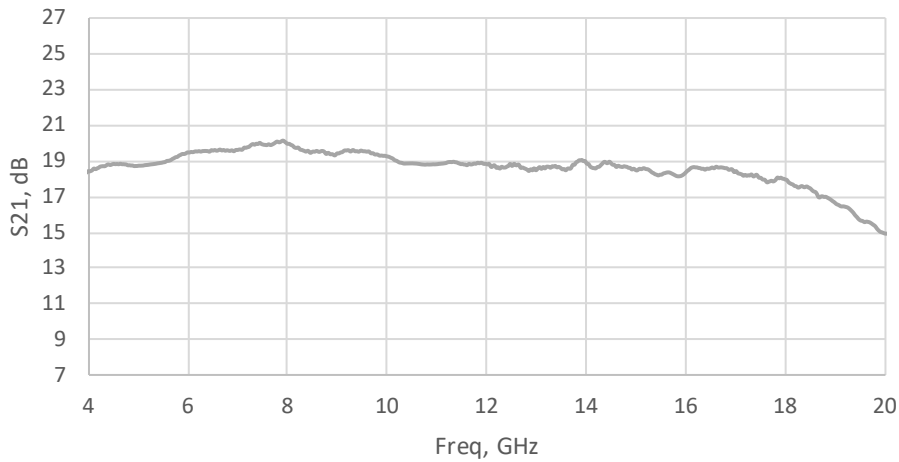

Figure 4-4. Typical A1A1 Pre-Amp Response
9. If the A4 40-watt Amp is normal, check the A1A1 Pre-Amp. The gain of the A1A1 Pre-Amp should be approximately 1-2 dB with the gain control at maximum. The typical A1A1 Pre-Amp response is shown in Figure 4-4.